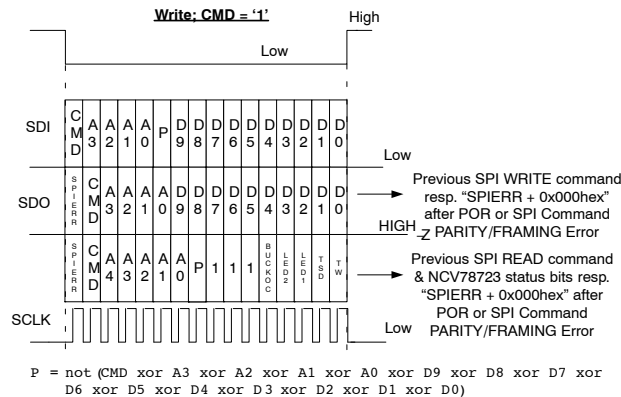

Figure 22. SPI Write Frame
- If the previous command was a read, the response frame summarizes the address used and an overall diagnostic check (copy of the main detected errors, see Figures 22 and 23 for details),